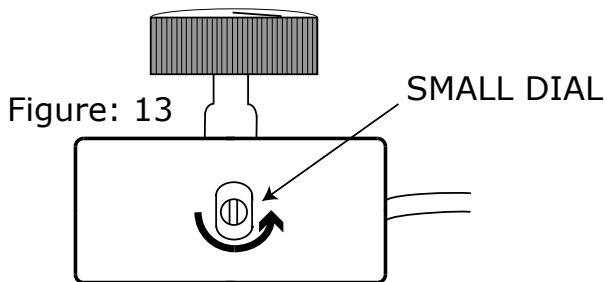

Figure: 13
- To adjust minimum speed: Rotate clockwise to decrease low-end speed; counter-clockwise to increase low-end speed. (Figure: 13)